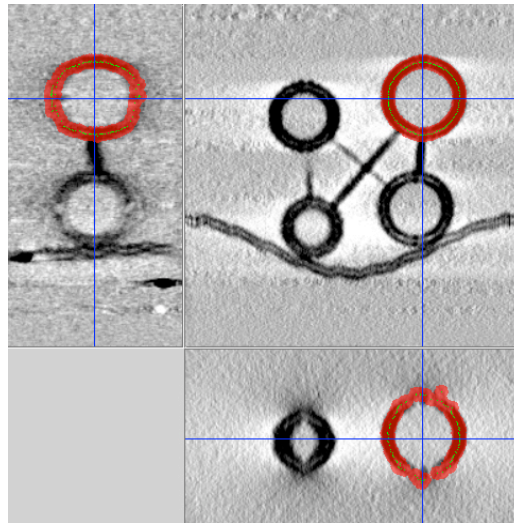

Figure 48: Initial propagated segmentation of vesicle .
- Left click inside the segmented vesicle in order to center it in the transverse displays (Figure 48).